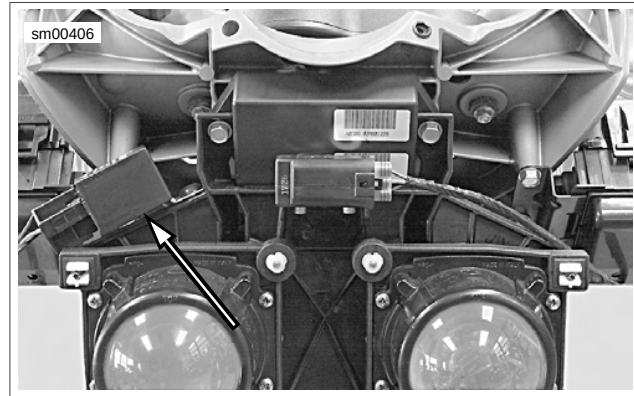

Figure 7-41. Turn Signal Flasher: Firebolt (Typical)
2. See Figure 7-41 (Firebolt), Figure 7-42 (Lightning) or Figure 7-43 (Ulysses). Remove fastener securing turn signal flasher to headlight support bracket (Firebolt) or front module (Lightning and Ulysses).
1. See Figure 7-41 (Firebolt), Figure 7-42 (Lightning) or Figure 7-43 (Ulysses). Attach 5-place connector [30] to flasher.